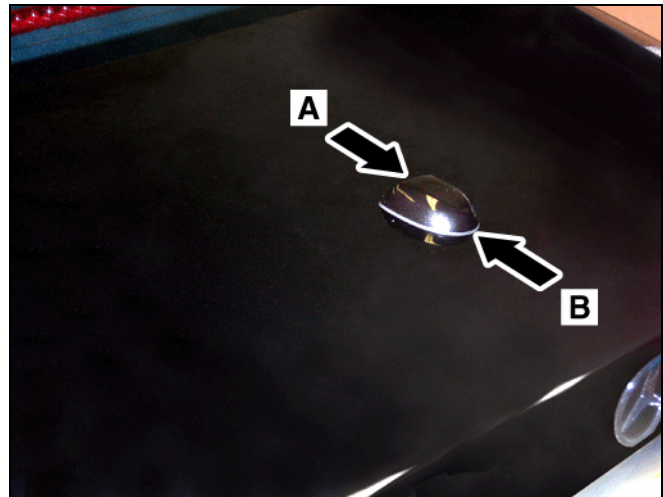

Figure 3
4. Align the SDARS antenna straight with the vertical end (A, Figure 3) facing the vehicle front and the beveled end (B, Figure 3) the vehicle rear.